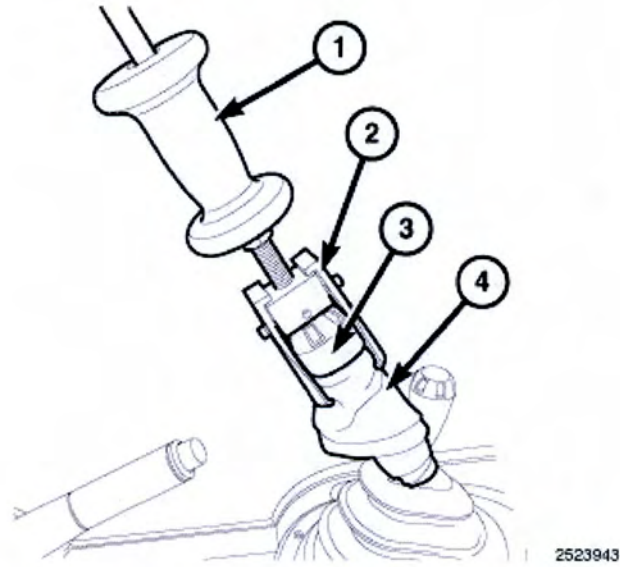

Fig. 2 Shift Knob Removal
3. If removal of the shift knob by hand is not possible, wrap a shop towel or equivalent around the base of the shift knob and using puller C-4333A-1 or equivalent and slide hammer, remove the shift knob from the shift lever (Fig. 2).